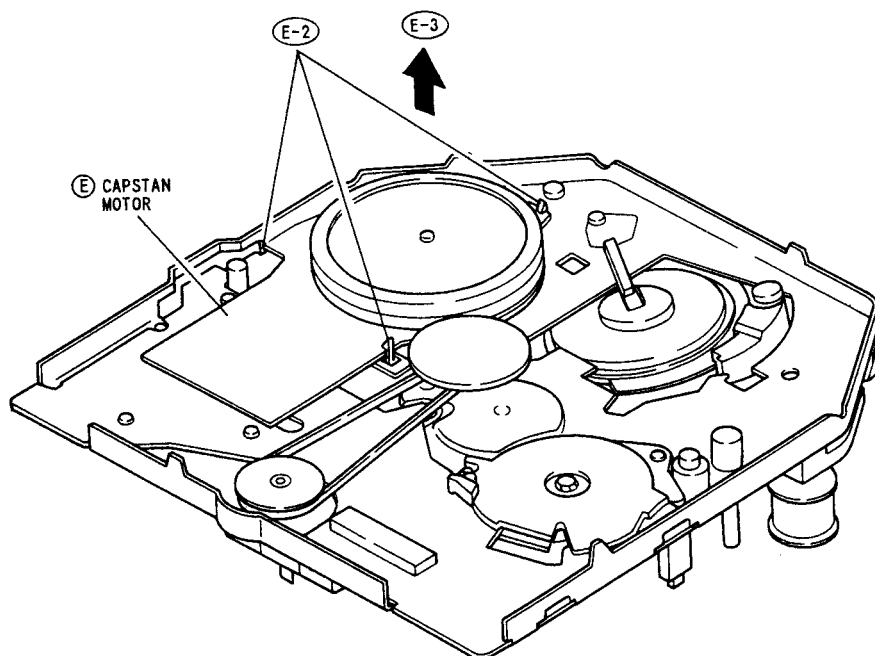

Fig. 4-1
E. Capstan Motor (Figs. 4-1, 4-2)
- 2) Release three (3) tabs. (See Fig. 4-1)